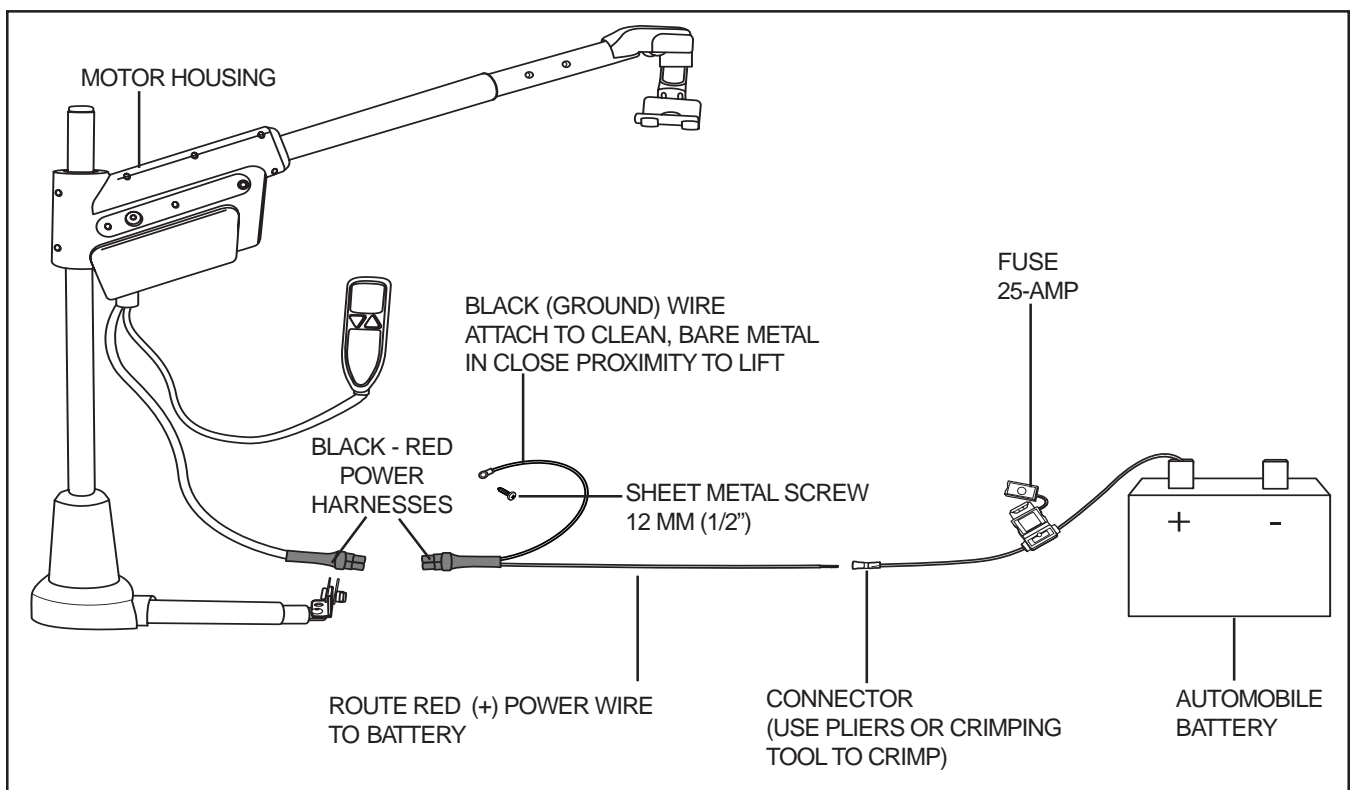

Figure 12. Electrical Wiring Connections
1. Route the lift's long red positive (+) power wire (starting at the lift) through the interior of the vehicle until you reach the automobile battery. **See figure 12.** Conceal the wire behind or under the interior panels (there should be existing holes). Be certain that the wire is protected with a rubber grommet when passing it through the metal panels and into the engine compartment. Inside the engine compartment, secure the wire to the firewall and the inner fender with the supplied plastic wire ties. Use care not to cause abrasions to the power wire. It is important to secure the power wire at various points along its run.
**NOTE:** If installed in a trunk, disconnect the black-red power harness (see figure 12) and remove the motor housing and upper post and place it in an area where it will be secure. The height of the boom arm will not allow the trunk to close.